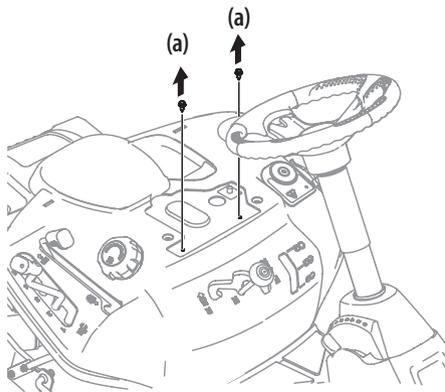

Figure 7
2. Remove the two self-tapping bolts (a) factory-installed on the riding mower. See Figure 7.